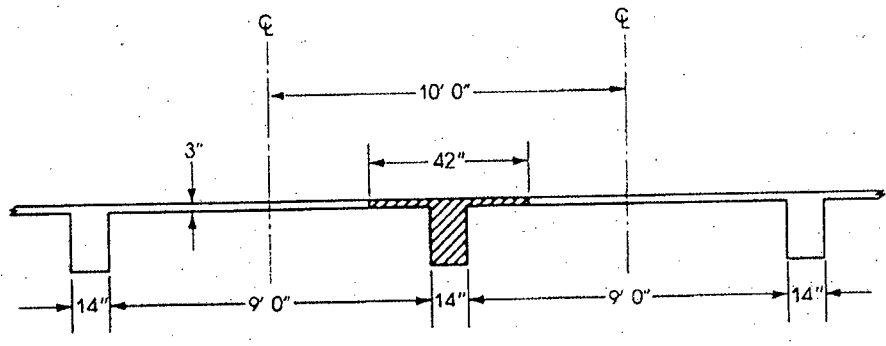

Figure: 01
1. (a) The floor system shown in Fig. 01 consists of 3-in. slabs supported by 14-ft-span beams spaced 10 ft on center. The beams have a web width, b_w , of 14 in. and an effective depth, d , of 18.5 in. Calculate the necessary reinforcement for a typical interior beam if the factored applied moment is 5080 Kip-in. (20)